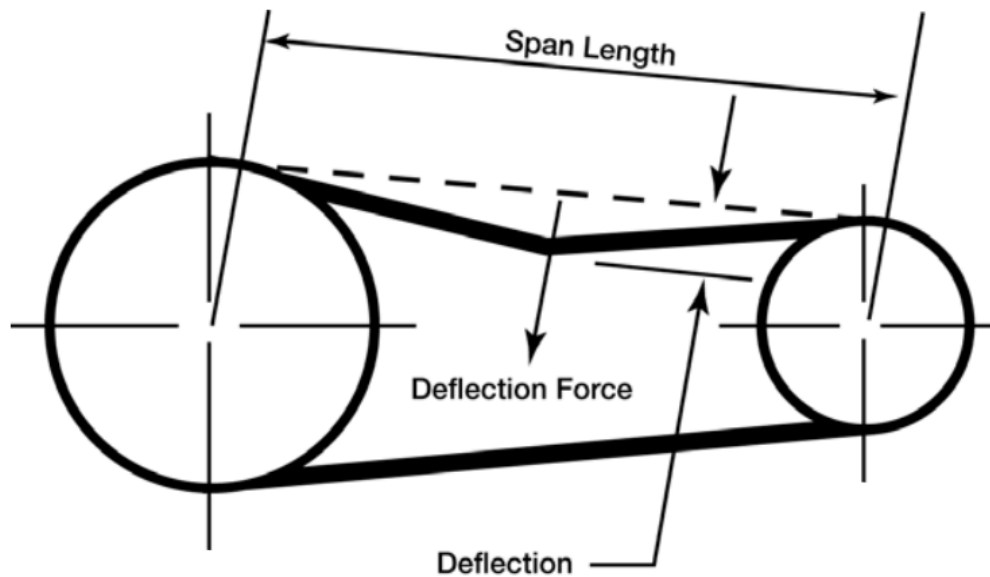

Figure 4.2: Reverse parallel belt tensioning diagram
- i. To measure the tension of the belt either use a sonic tension meter or measure the deflection force required to deflect the belt in the center of its span (Fig 4.2) by the distance called out in the “deflection” column in Table 4.2.